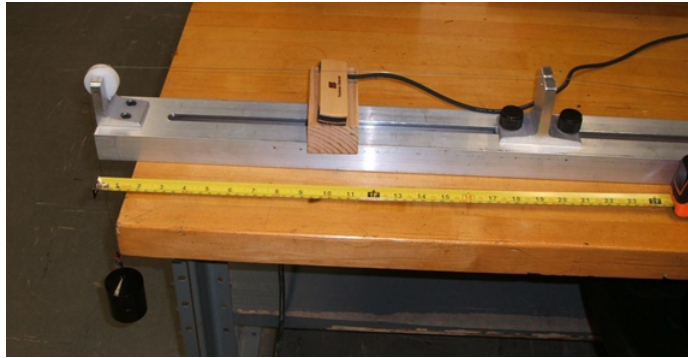

Figure 1
2. Referring to Figure 1, connect one end of the first wire to the hook on the back of the apparatus. Feed the wire over the groove on top of the adjustable stop piece, over the pulley at the far end, and leaving the other end of the wire dangling free.